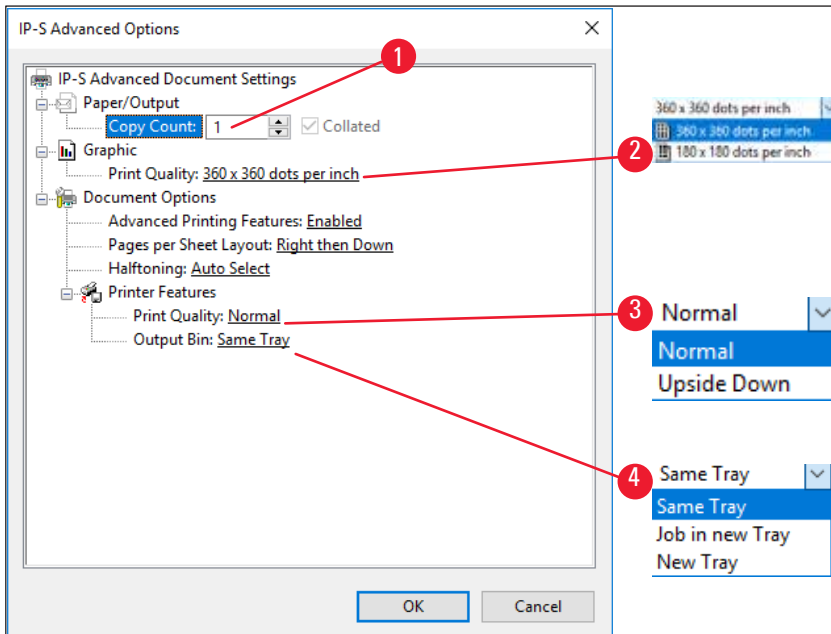

Fig. 44
**The Advanced Options dialog box (→ "Fig. 44")**